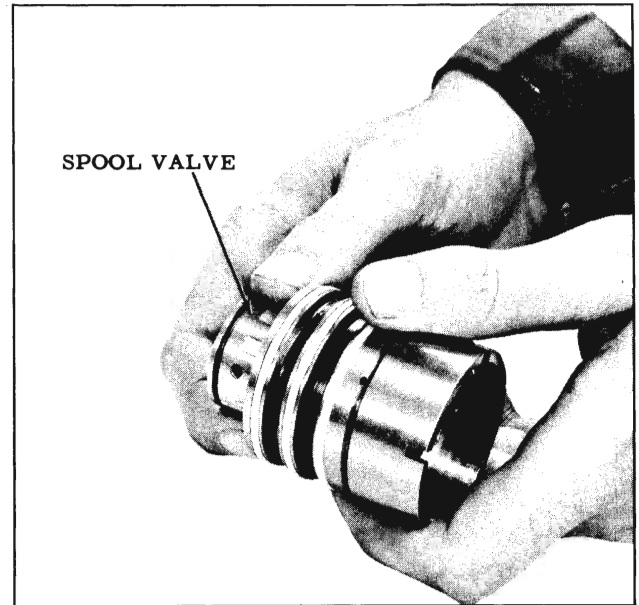

Fig. 4-54 Removing Spool Valve
3. Push the spool valve out of the flush end of the valve body until the dampener "O" ring is exposed, then carefully pull the spool from the valve body while rotating the valve. (Fig. 4-54) If the spool valve becomes cocked, reverse the withdrawal procedure, then again attempt to remove the valve.